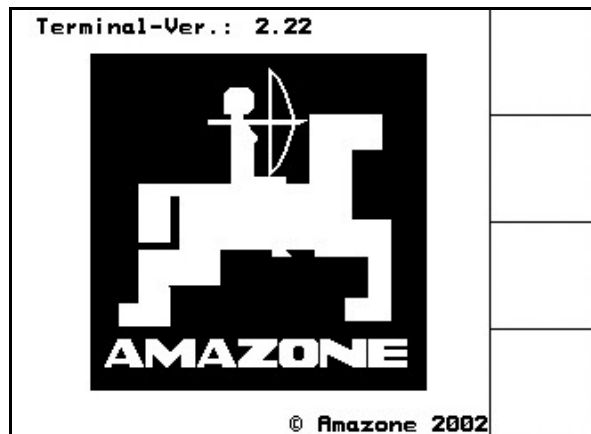

Fig. 34
- When the implement computer is connected the start menu appears (Fig. 34) with the terminal version (in this case terminal version: 2.22). After approx. 2 seconds the **AMATRON** + automatically jumps into the main menu.